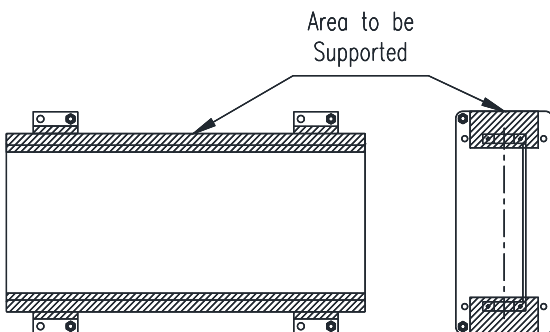

Fig. 11 – Shimming Area
4. Use shims under bases in areas shown in **Fig. 11** as needed to achieve levelness. Shims may be cut to length as needed.